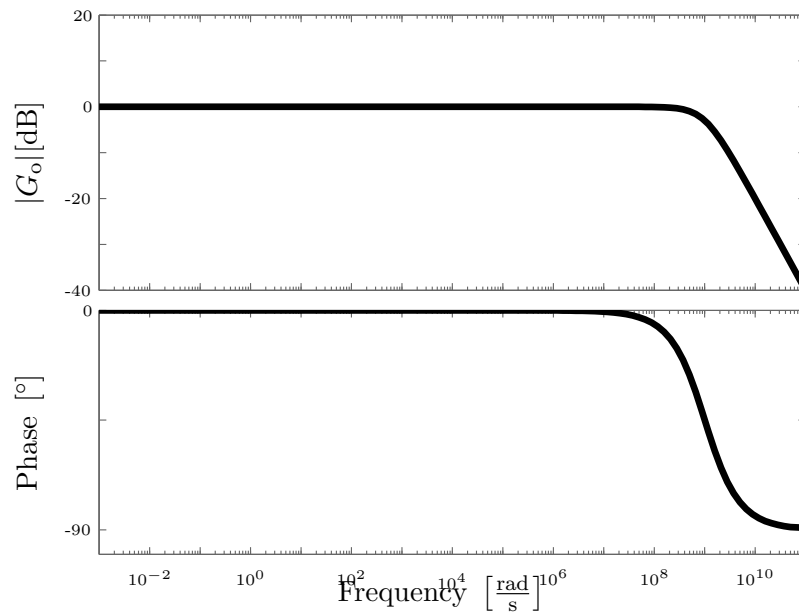

Figure 5.2: Bode plot of the desired system
- The transfer characteristic of the system is optimized by applying a filter $G_F(s)$. The new desired transfer behavior $G_o(s) = G_S(s)G_F(s)$ is shown in Figure 5.2 (system and filter). State the transfer function $G_F(s)$ and the desired gain K_F of the new filter.